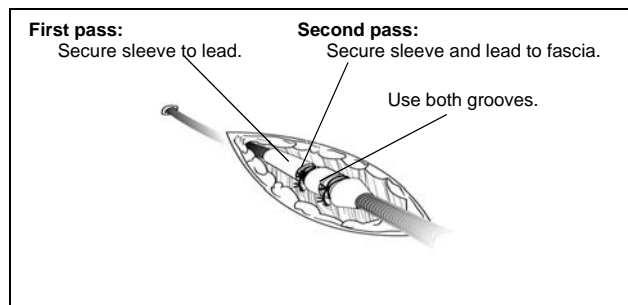

Figure 15. Using the sleeve with the percutaneous implant technique.
1. Peel back the introducer sheath and slide the suture sleeve deep into the tissue (Figure 15).